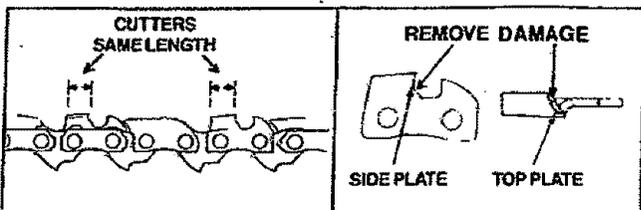

Figure 36
- Keep all cutters the same length. Figure 36.
- File enough to remove any damage to cutting edge (side & top plate) of cutter. Figure 36.